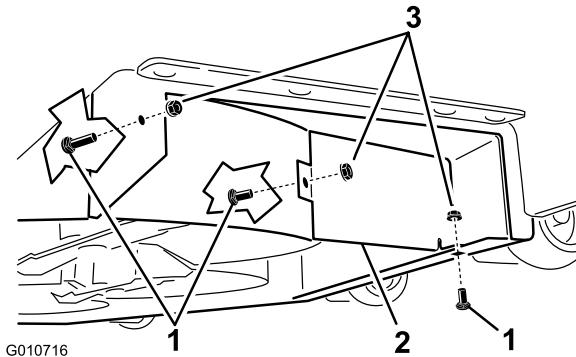

Figure 9
- Locate the baffle guard in loose parts. Use two carriage bolts (5/16 x 3/4 inch) and two lock nuts (5/16 inch) to the deck to secure the baffle guard to the right baffle and the mower deck as shown in Figure 9. Hand tighten the fasteners.